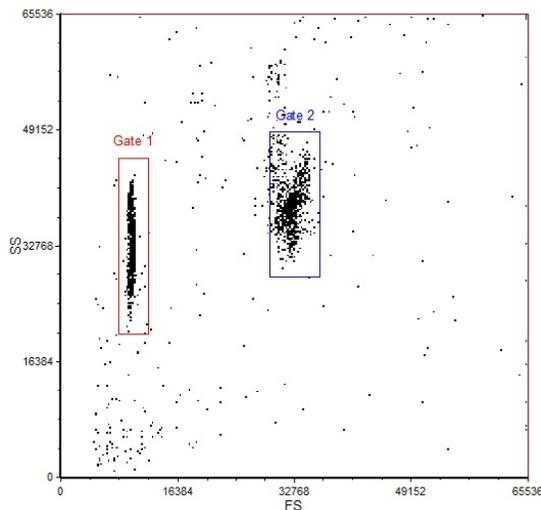

Figure 1
- 1) Adjust FS and SS gains so that the bead populations are on scale (Figure 1).
- 2) Create Gate 1 for the smaller (4 micron size, S4) beads and Gate 2 for the larger (5 micron size, S5) beads (Figure 1).